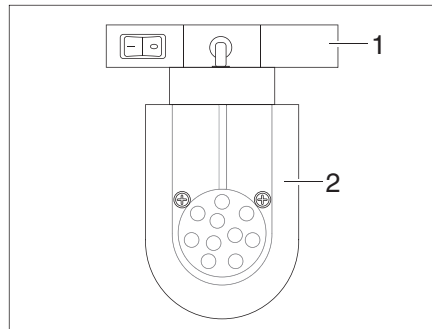

Fig. 58 LED spot light (example)
- Grasp the holder (Fig. 58,1) and turn it 90°.
- Remove the LED spotlight (Fig. 58,2) from the rail system.
- Insert the LED spotlight (Fig. 58,2) into the rail system at the desired position and turn 90°.